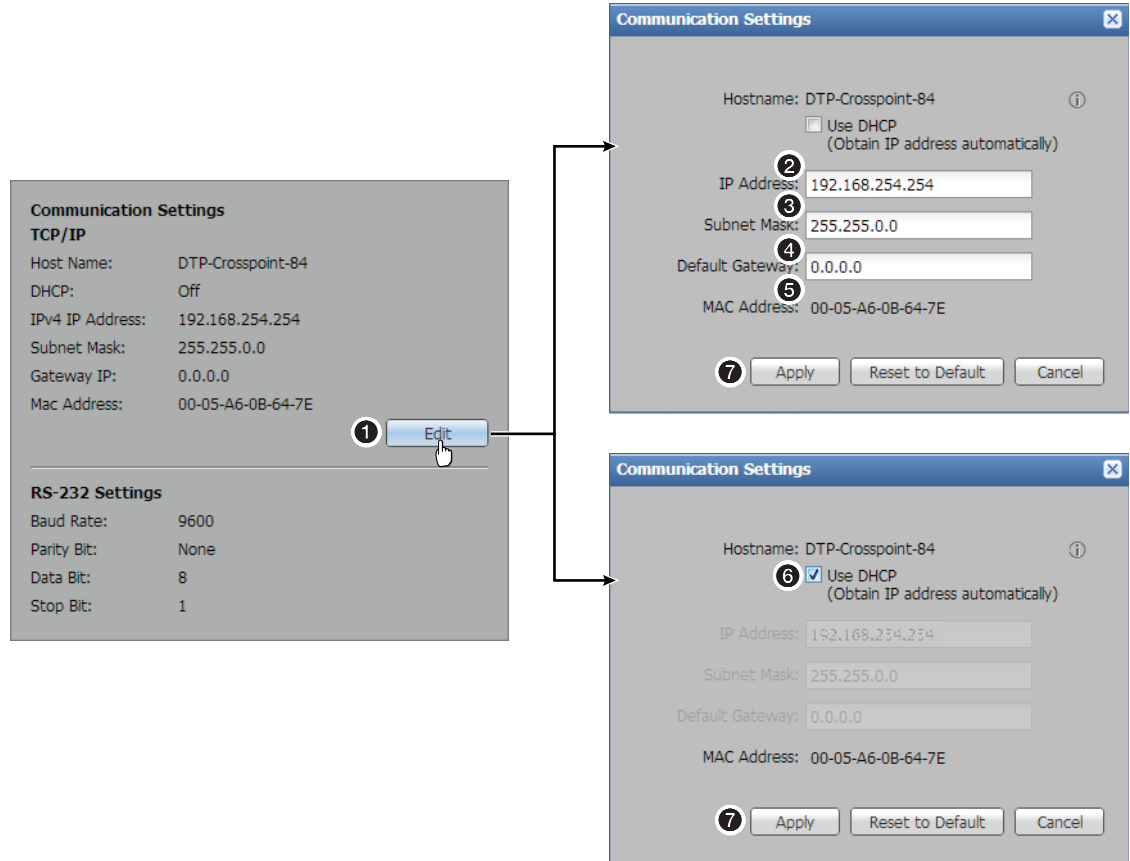

Figure 71. Communications Settings Dialog Box
Click the **Edit** button in the Communications Settings panel (see figure 71, ❶) to open the Communications Settings dialog box. The dialog box provides a location for viewing and editing settings unique to the Ethernet interface. See the *IPCP Pro 350 Series User Guide* at www.extron.com for basic information about IP addresses.
4. Click the **Apply** button (see figure 71, on the previous page, ⑦) to make the address change take affect.